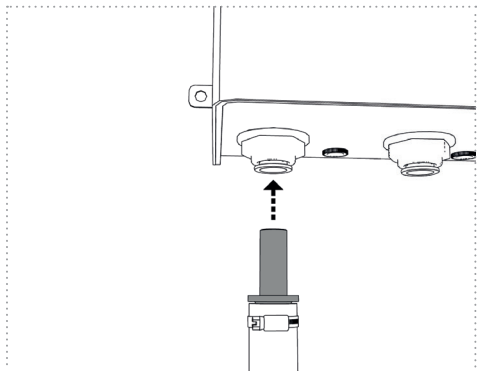
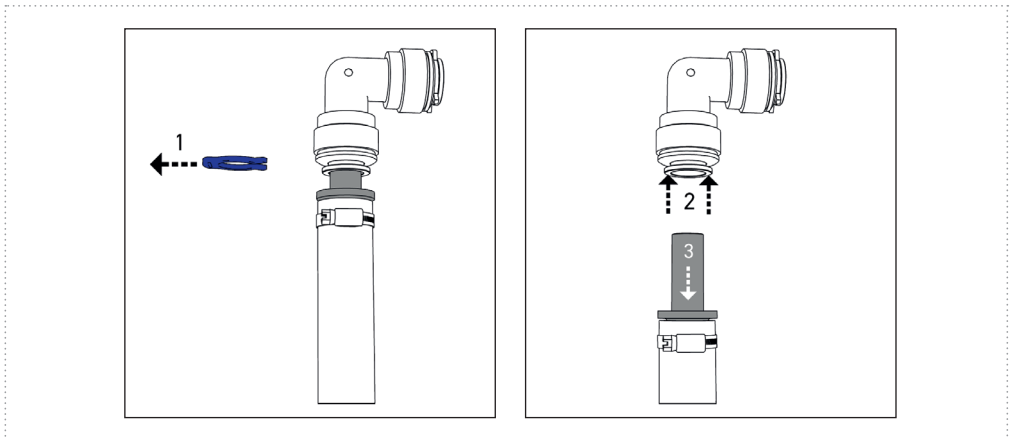

Figure 10a
Figure 13
5. Now guide the hoses directly into the water connections of the UV unit up to the stop (Figures 10a and 10b). In all cases, secure all push-in connections with the included „safety rings“ (Figure 13).
If it becomes necessary to disconnect a push-in connector, please proceed as follows (Figure 13). First, remove the locking ring (1). Push back and hold the retaining element using your fingers or with the aid of a release tool (e.g., the locking ring) (2). The inserted pipe or hose can now be removed (3).